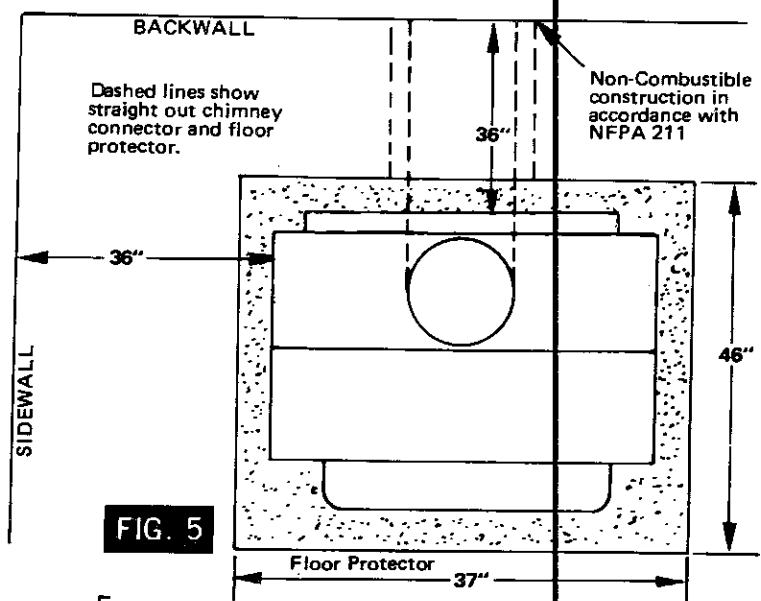

FIG. 5
2. Place the heater on solid masonry or solid concrete. When the heater is used on a combustible floor, use a non-combustible floor protector of 3/8" thick asbestos millboard or equivalent or a U.L. listed floor protector. Have the floor protector extend 16" in front of the heater, 8" to each side, 2" to the rear; underneath and 2" to each side of the chimney connector. (See Figure 5).